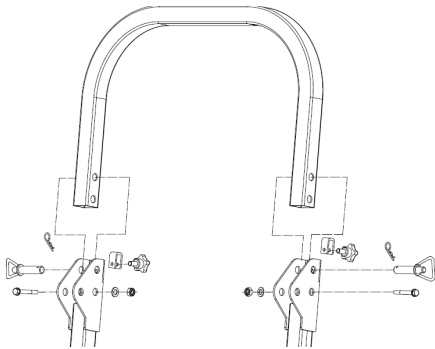

Fig. 4
- Locate the upper u-shaped section of the roll bar. Install the upper roller section using the latch pin assemblies .Refer to Fig. 4.